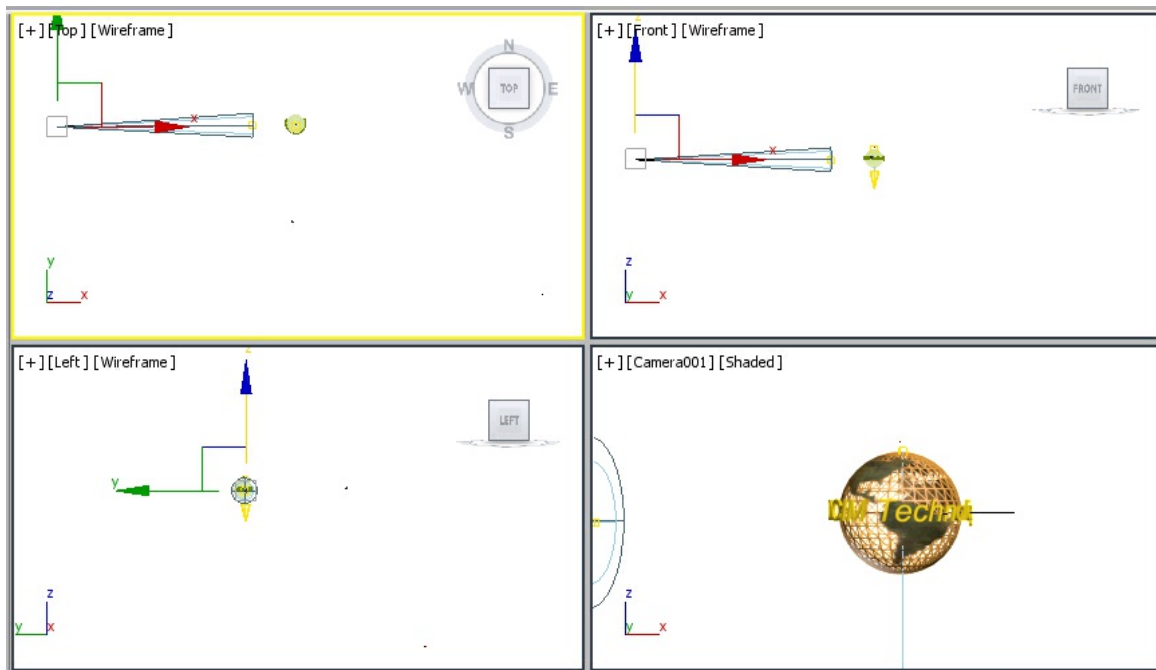

Figure 14-62 The *Spot002* and *Spot002.Target* light aligned in viewports
31. Choose the **Zoom Extents All** tool and align *Spot002* and *Spot002.Target* in the viewports, as shown in Figure 14-62.